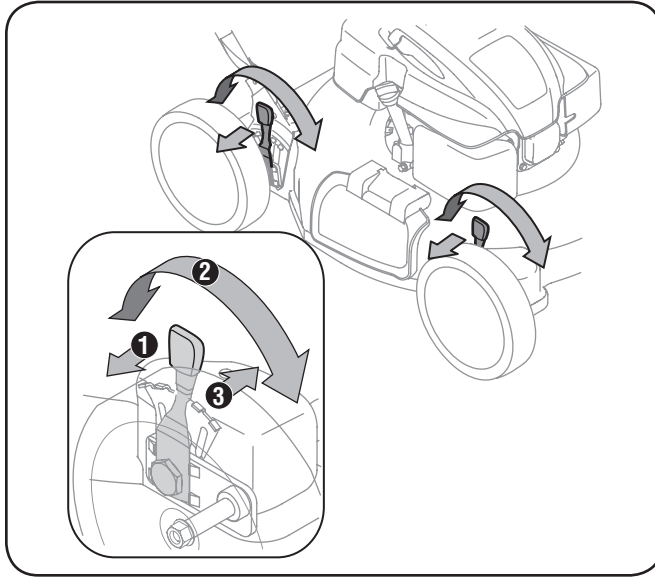

Figure 3-6
2. Slide lever to desired position for a change in cutting height. See Fig. 3-6.